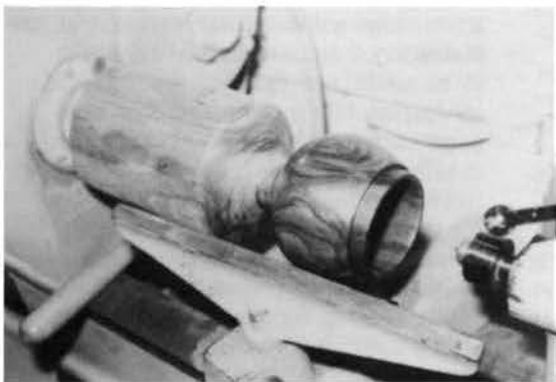

Figure 3. Hollow and finish inside and outside of lid.
6. Shape the base and fit the top into a groove made with an 1/8-inch parting tool. A good snug fit will allow you to finish the area that was used to support the lid. Be careful with the fitting - too tight may cause a split; too loose will feel poor in the final product. The base makes a fine chuck (Figure 3).